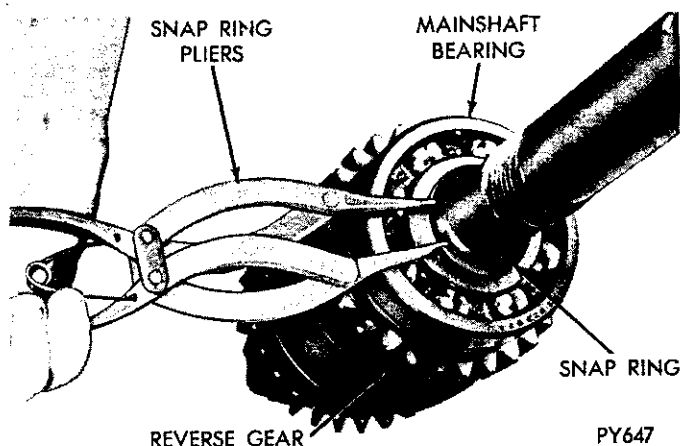

Fig. 18—Snap Ring—Mainshaft Bearing to Shaft—Removal or Installation
- (5) Remove snap ring securing bearing to mainshaft (Fig. 18).
(19) Install bearing retaining snap ring on mainshaft (Fig. 18).
(20) Spread snap ring in mainshaft bearing retainer groove and slide it over the bearing. Be sure snap